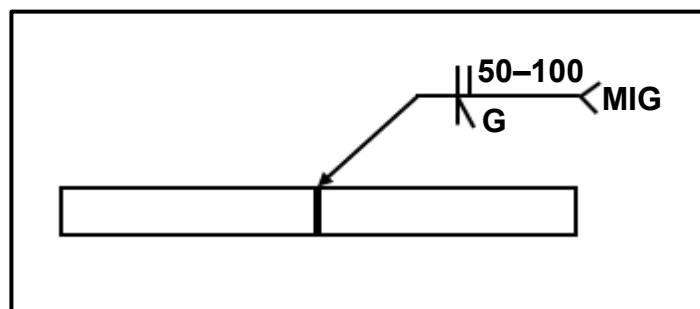

FIGURE 5.3
- 5.3 FIGURE 5.3 below shows a welding symbol. Identify the information required in QUESTIONS 5.3.1 to 5.3.6 and write the answers in the ANSWER BOOK.